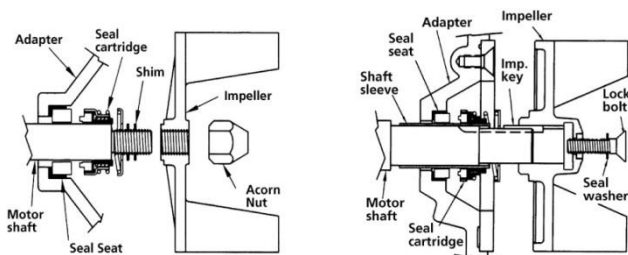

Figure 1 & 2 – Mechanical Seal Replacement
Should the mechanical seal, which consists of seal seat (Ref. No. 6), seal cartridge (Ref. No. 5) and shaft sleeve (Ref. No. 19, if applicable) require replacement, proceed as follows and refer to Figures 1 and 2. The seal should also be replaced if the adapter (Ref. No. 8) is to be replaced.
3. 316A-95 and 316B-95 (Figure 1): Remove impeller lock nut (Ref. No. 18). Unscrew impeller (Ref. No. 3) from the motor shaft. Use a rubber mallet or soft block of wood to loosen impeller. Turn it counterclockwise. Remove the impeller shim (Ref. No. 4) and seal cartridge (Ref. No. 5).